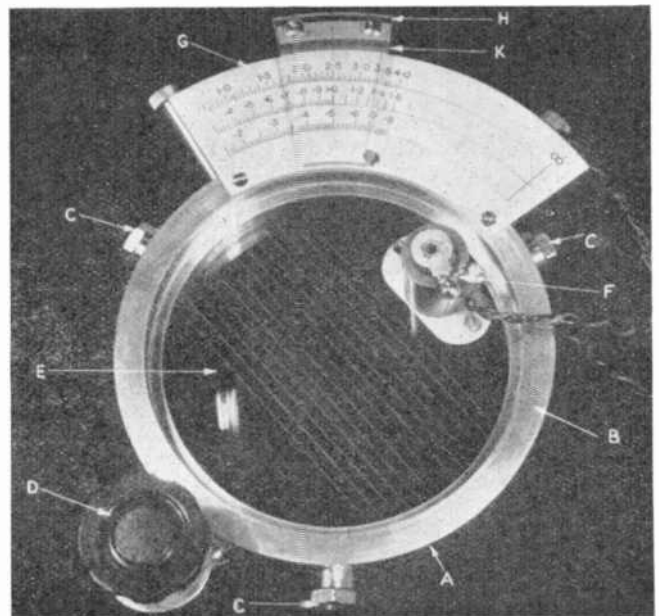

Fig. 6. The reverberation scale
The special scale developed for reading reverberation times directly off the face of the oscilloscope is shown in Fig. 6. It consists of an outer brass ring (A) which has a bayonet fixing to the oscilloscope housing. An inner ring (B) is carried on three polytetrafluoroethylene bearings (C) and can be rotated with respect to the outer ring by a friction drive (D). A perspex graticule (E) is fastened to the inside of the ring and has several parallel lines engraved upon it to assist in the alignment of the graticule and the decay curve. These lines are illuminated by indirect lighting from a flash lamp bulb in the housing (F) on the graticule. The inner ring also carries the reverberation scale (G) which is divided into three ranges 0.2 to 0.8, 0.4 to 1.6 and 1.0 to 4.0 seconds. The index (H) for the scale is carried on a lamp housing (K) on the outer ring—the lamp being used to back light the scale. The lamp housing can be adjusted on the outer ring so that the index corresponds to "∞" on the reverberation scale when the graticule lies along the time-base axis. This allows for variations in the position of the bayonet fastening and also for misalignment of the cathode-ray tube.